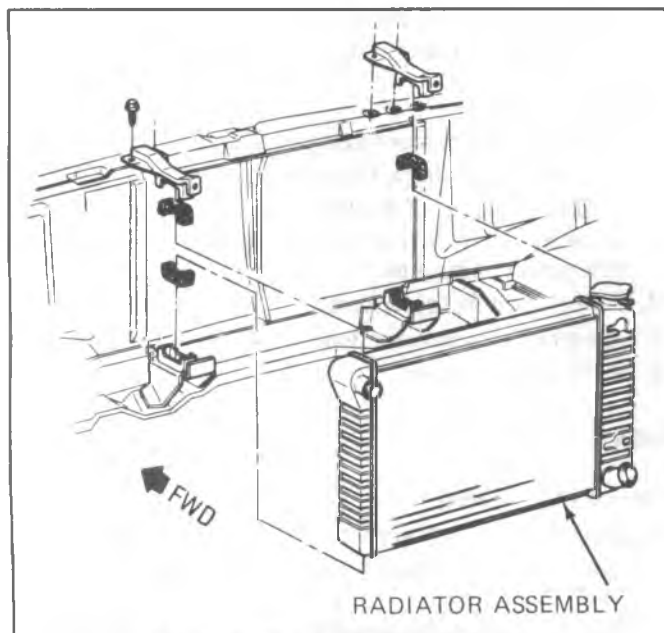

Fig. 6B-6-'G' Van Radiator Mounting
**RADIATOR (FIG. 6B-6 THRU 6B-9)****Removal (G & CK Series)**
**FAN SHROUD (FIG. 6B-10 THRU 6B-12)****Removal (CK Series)**